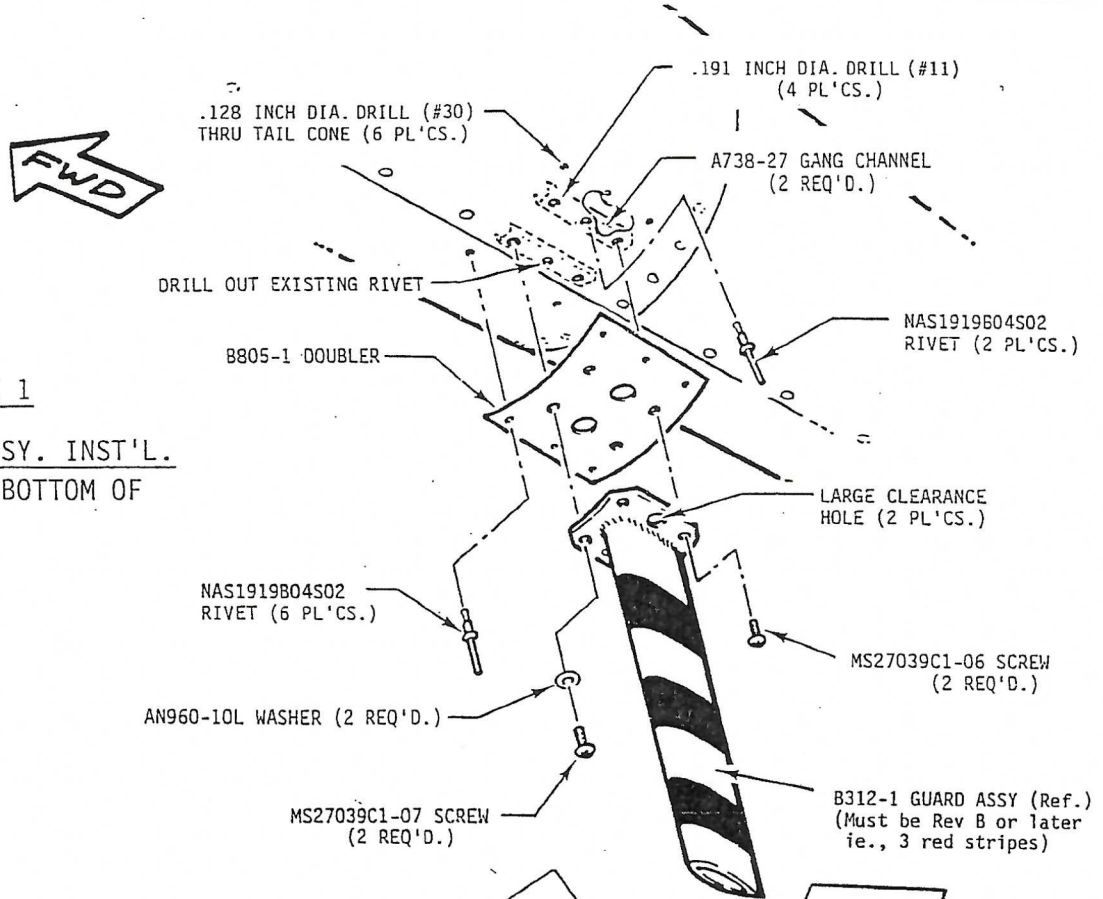

FIGURE 1
STEP 2) Drill out the first rivet forward of the tail cone skin lap joint nearest the tail rotor (see figure 1). Use caution and a drill stop attachment to avoid damaging the tail rotor drive shaft when drilling.
STEP 3) Place the B312-1 Guard and B805-1 Doubler against the tail cone with the large clearance hole centered on the rivet hole per Figure 1. Using the guard as a template, drill one screw hole on each side of the rivet hole using a .191 inch diameter drill with drill stop attachment. Put a loose screw in the first hole before drilling the second hole to hold the guard in place.
STEP 8) Install B805-1 Doubler and B312-1 T.R. Guard using two MS27039C1-07 screws and AN960-10L washers on the tailcone seam and two MS27039C1-06 screws at remaining two holes. (ref Fig. 1)